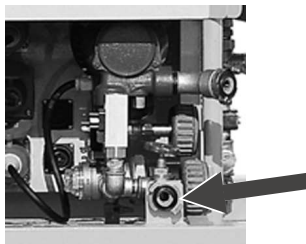

Fig. 25: Cleaning valve
- Connect the water hose to the cleaning valve (fig. 25)
- Couple one end of the mortar hose to the reduction adapter (M35/GEKA) on the cleaning valve of the water fitting (see fig. 25, page 51)